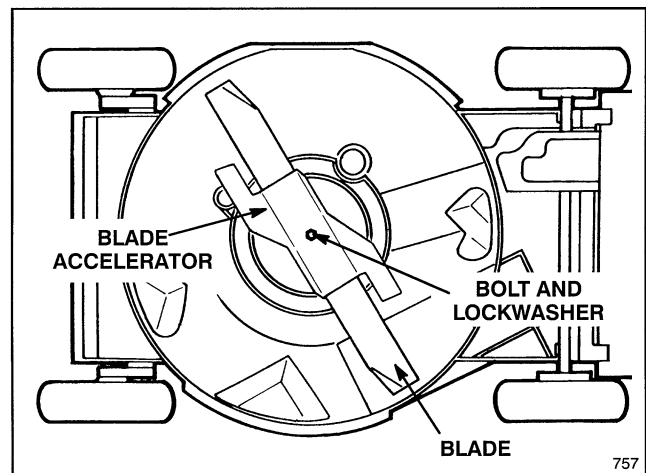

Figure 25
3. Tip mower on its right side (Fig. 25). Avoid rotating blade as starting problems may result.
5. REMOVING BLADE—Grasp end of blade using a rag or thickly padded glove. Remove blade bolt, blade accelerator, and blade (Fig. 25).